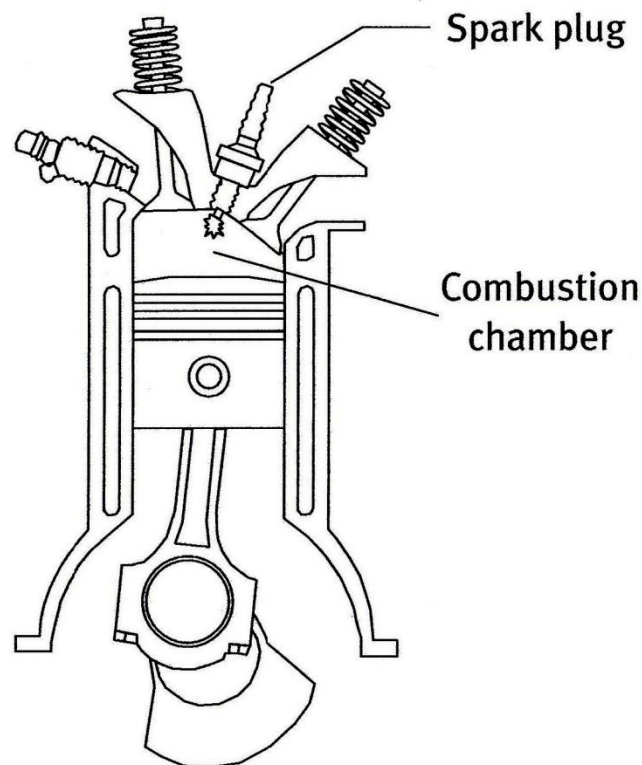

Figure 2.1 Spark ignition engine
We mentioned that spark ignition (SI) engines use petrol as fuel. The fuel is mixed with air in a small space, and ignited with the spark of a spark plug. The important thing is to ignite the fuel at exactly the right or optimum time. This will allow the expanding gases to do the most amount of useful work. If the ignition system fires at the wrong time, a lot of fuel will be wasted. **Figure 2.1** illustrates a spark ignition engine.